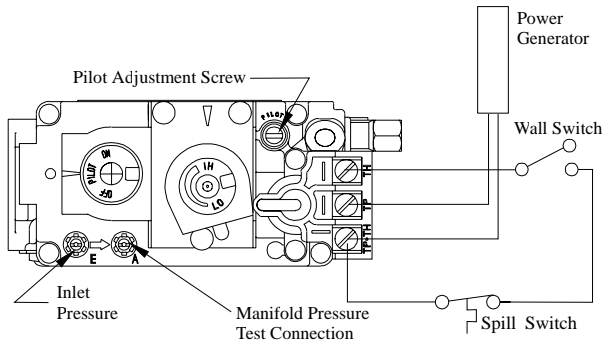

Figure 30. Sit Nova 820 gas valve.
1. Locate Pilot Adjustment Screw. (See figure 30.)
Pilot won't ignite	Disconnect remote wires and try to light pilot. If pilot now works, remote connections are faulty. Check wiring diagram figure 30.
Main burner will not light	1. Check wiring (see figure 30). 2. Check wall switch for proper connection.